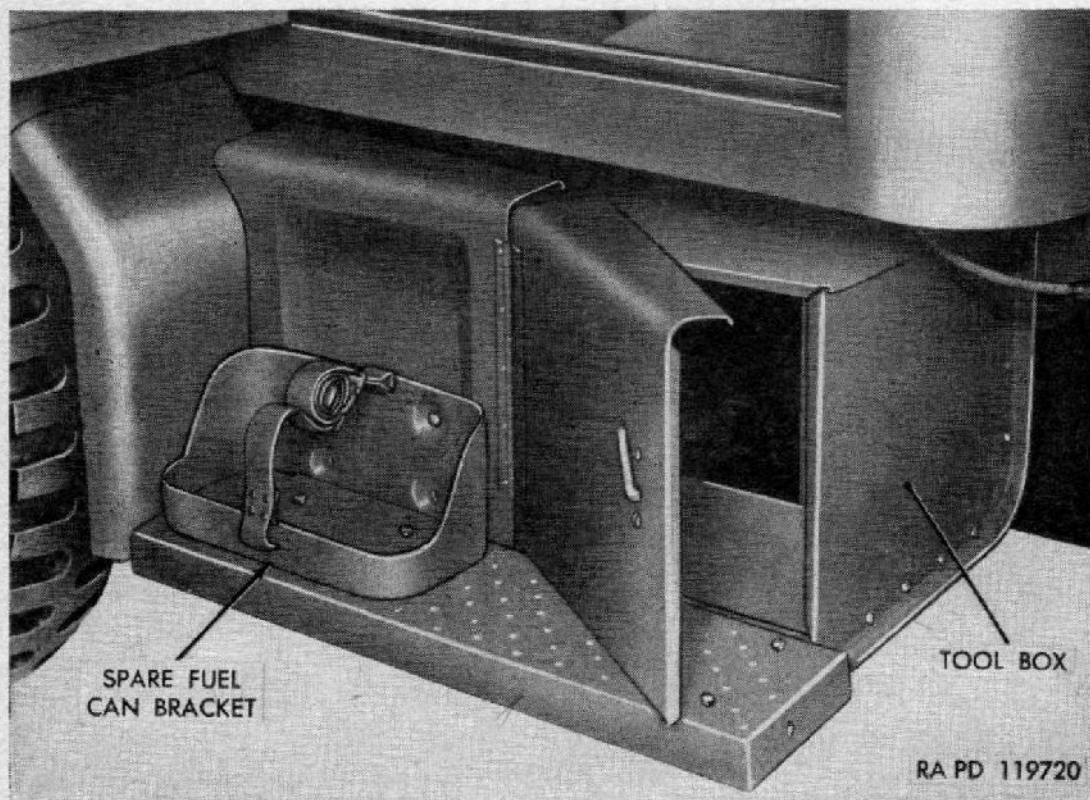

Figure 11. Tool box—M34 and M36 trucks.
a. When a new or reconditioned vehicle is first received by the using organization, it is necessary for the organizational mechanics to determine whether the truck has been properly prepared for service by the supplying organization and is in condition to perform any mission to which it may be assigned when placed in service. For this purpose, inspect all assemblies, subassemblies, and accessories to be sure they are properly assembled, secure, clean, and correctly adjusted and/or lubricated. Check all tools and equipment (sec. 1, ch. 3) to be sure every item is present, in good condition, clean and properly mounted or stowed (figs. 11 and 12).